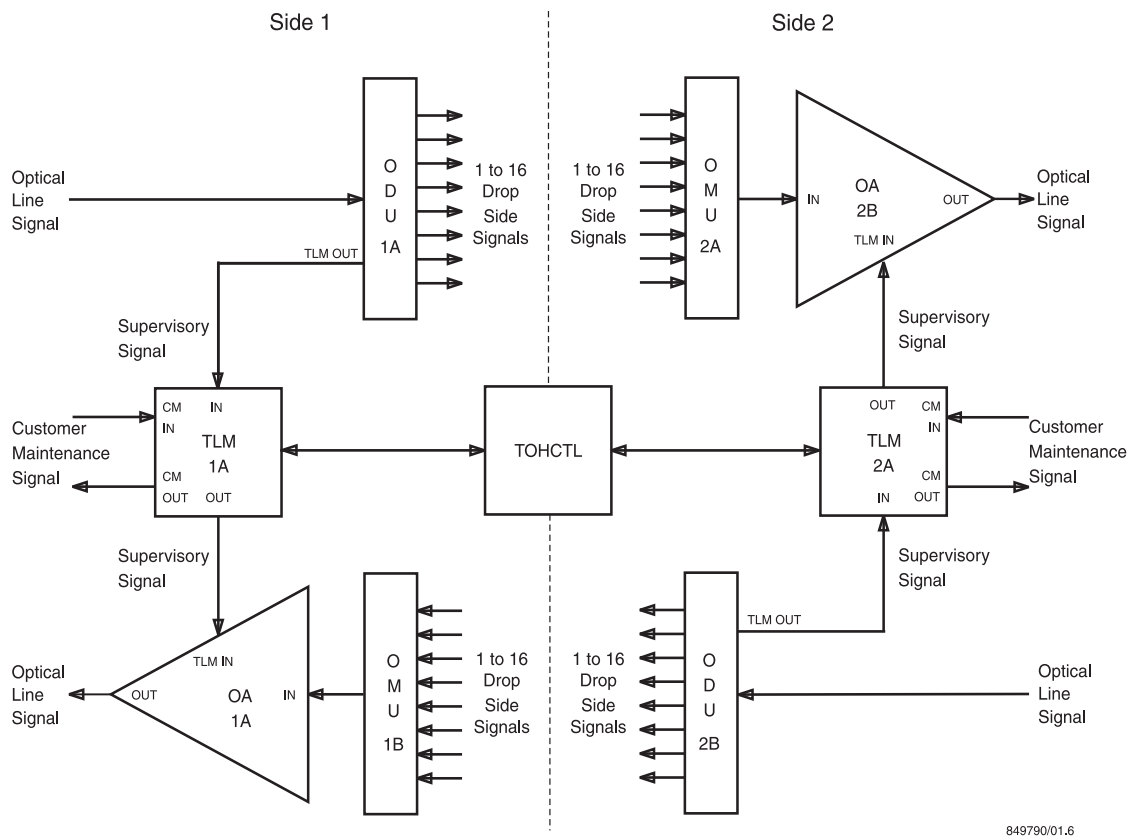

Figure 5-12. Single Optical Amplifier DUAL End Terminal Transmission Block Diagram
Figure 5-12 shows a transmission block diagram of the End Terminal Shelf with a single Optical Amplifier (OA) circuit pack provisioned as a DUAL end terminal. DUAL indicates the end terminal has two sides. Side 1 represents lines 1 and 3. Side 2 represents lines 2 and 4. Side 1 is equipped as a 1A-RCV end terminal, and side 2 is equipped as a 1A-TX end terminal.